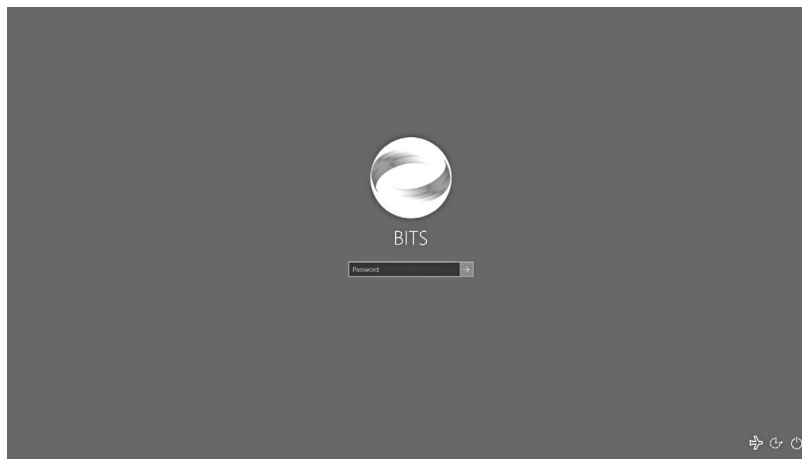

Figure 30: Windows Password Screen
4. Click inside the Password Box, and enter the password. See Figure 30.